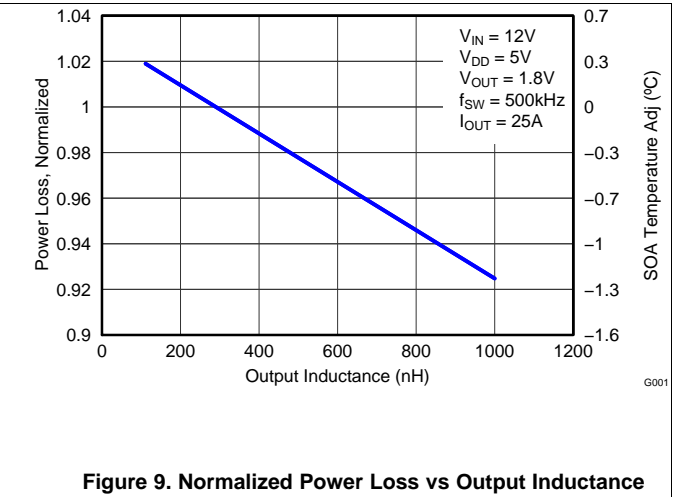

Figure 9. Normalized Power Loss vs Output Inductance
- Normalized Power Loss for output inductor  $\approx$  1.01 (Figure 9)
- SOA adjustment for output inductor  $\approx$  0.2°C (Figure 9)